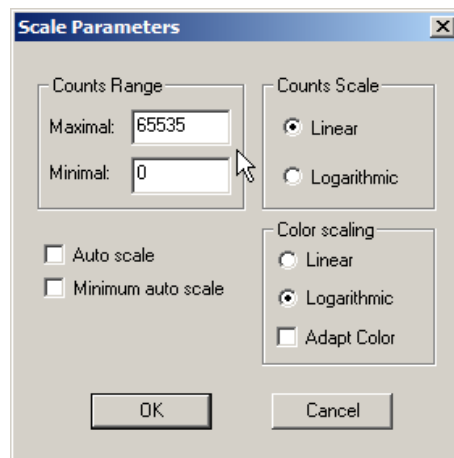
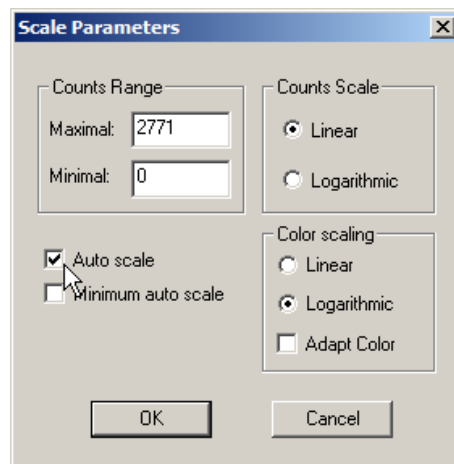
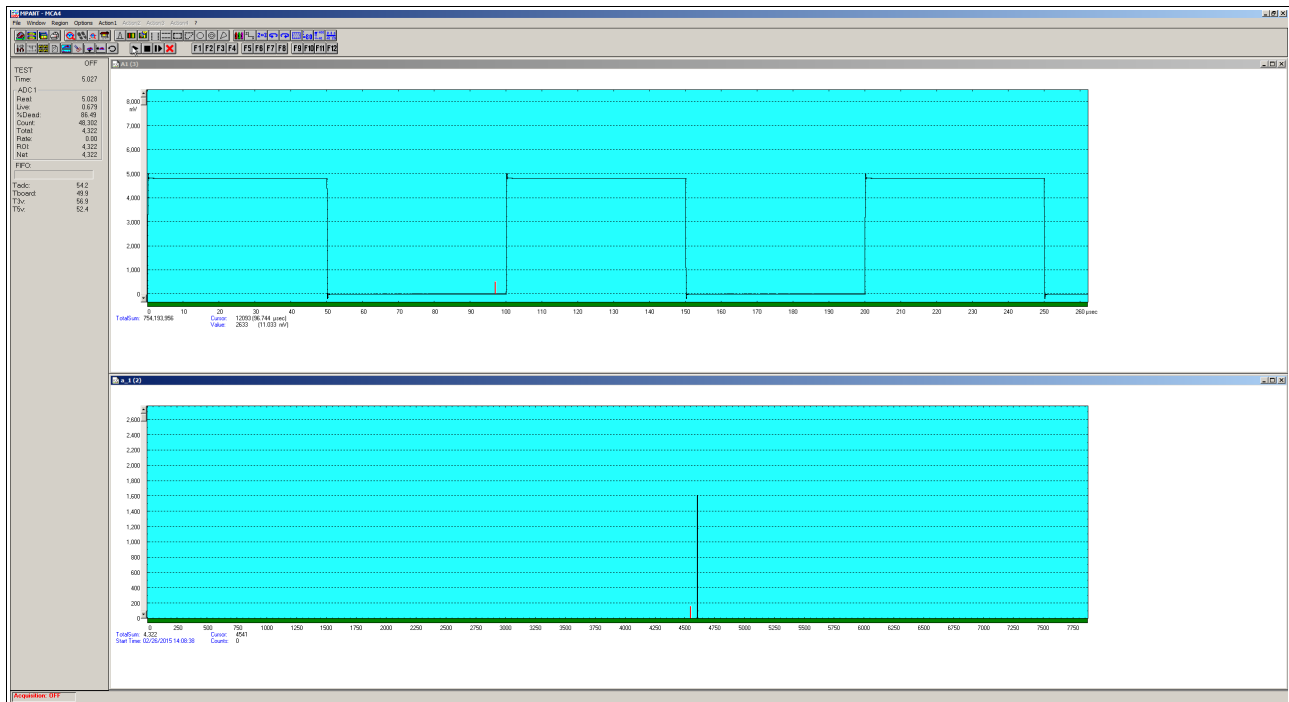

Fig. 2.10: Scale parameters for the scope display
Fig. 2.11: Scale parameters for the spectrum display
Fig. 2.12: 1st scope measurement
Click on the scope display window (A1 (3) in Fig. 2.12) to make it the active window in MPANT. Select *Options – Scale parameters...* or click  and set the *Counts Range* to 0 ... 65535 and deselct *Auto scale* and *Minimum auto scale* (ref. Fig. 2.10). Press OK. This makes sure we will see the full 16 bit ADC conversion range.
After activation of the spectrum display (a_1 (2) in Fig. 2.12) again select *Options – Scale parameters...* and enable *Autoscale* (ref. Fig. 2.11). Press OK.
Looking at Fig. 2.12 one can easily see the square wave had an amplitude of some 4.8V with little over- and undershoot at the edges. The amplitude was stable enough which can be seen from the narrow peak (needle) in the lower pulse height analysis spectrum.